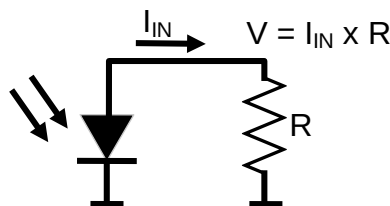

Figure 3: Relationship between Voltage, Current, and Resistance
Figure 3 shows this relationship within a circuit. Note that in photovoltaic mode, current flow is in the opposite direction of the arrow, which would make the voltage (V) in Figure 3 negative.